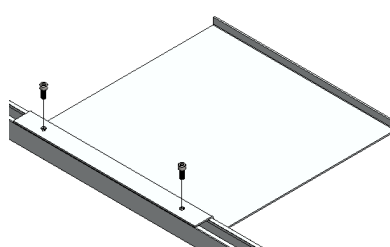

Figure 4
4.2.1 According to your plan, fix the Clamp Tray on MT-Rail along length direction and fasten with Bolts M8*20 tightly, and load specified ballast blocks on Clamp Tray as shown in Figure 4 and 5.